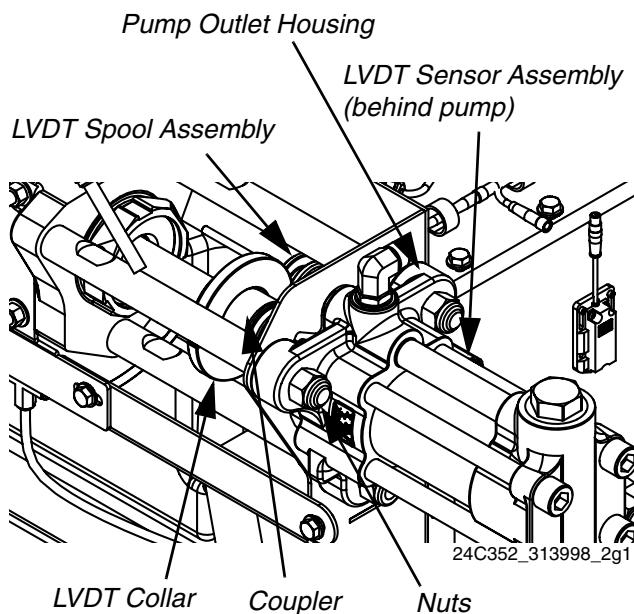

FIG. 2
7. Remove two shoulder bolts from LVDT collar then remove collar from B side pump shaft. See FIG. 2.
8. Remove coupler from the A and B side pump shafts. See FIG. 2.
9. Unscrew LVDT sensor assembly and spool assembly from pump outlet housing. Wipe off spool assembly. See FIG. 2.
10. Remove three nuts securing pump to tie rods. See FIG. 2.